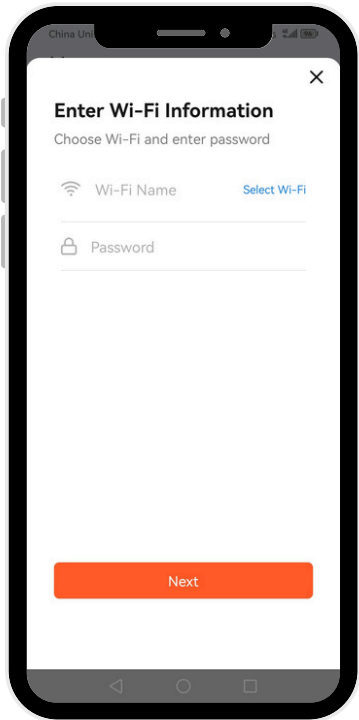

Figure 4
Step 5: Select your home WIFI name, enter the WIFI password and click Next, as shown in Figure 4.